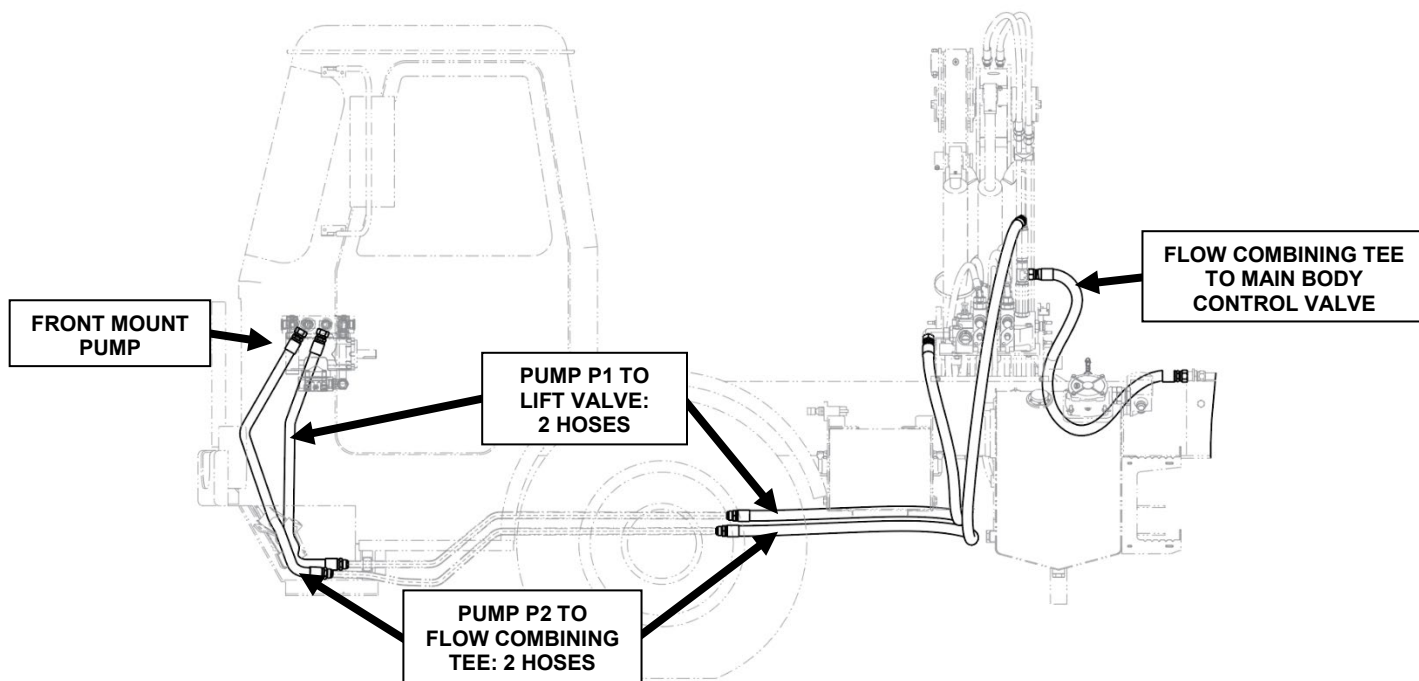
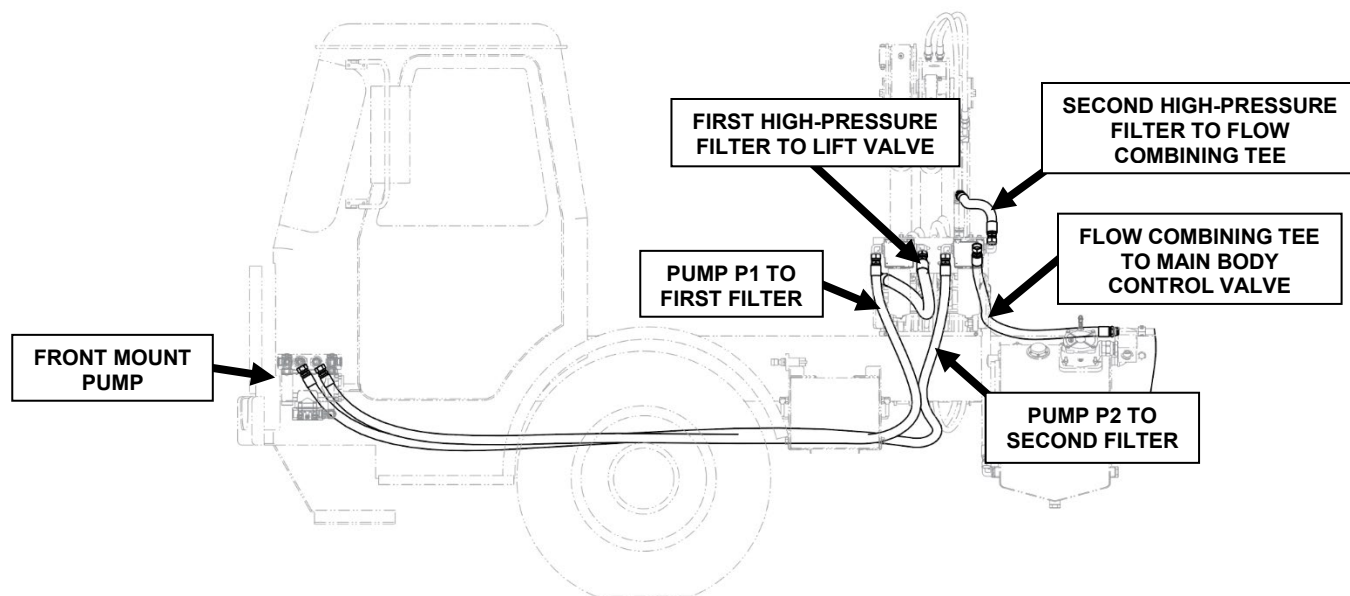
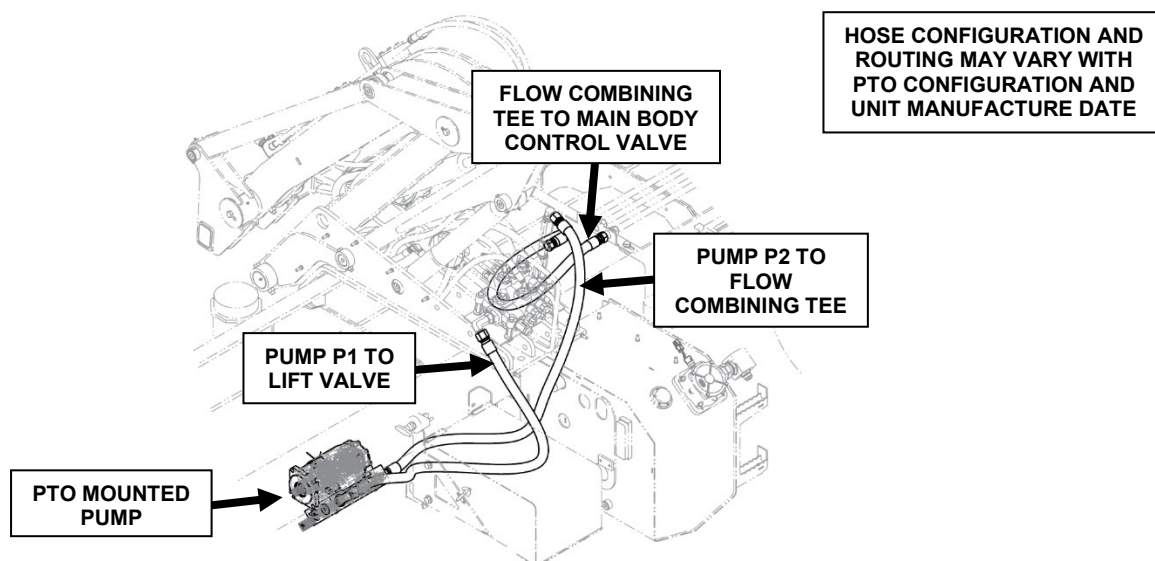
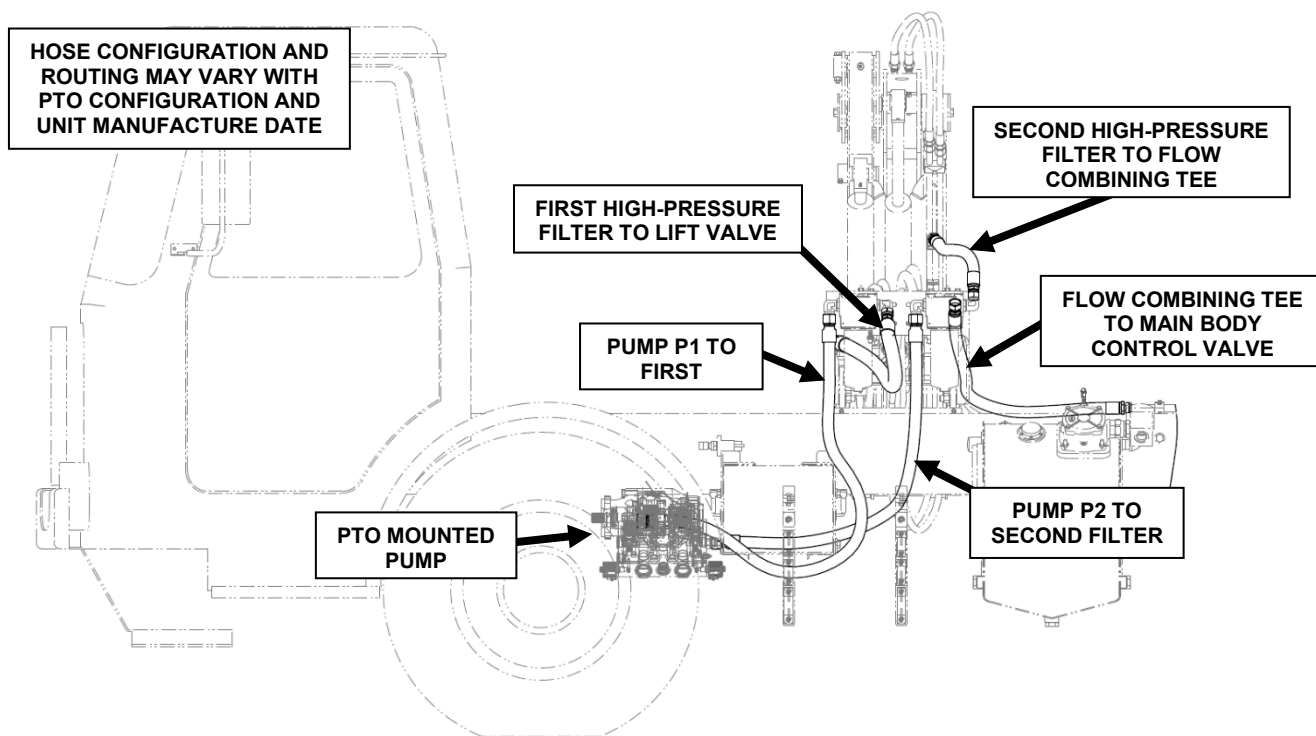

Figure 1. Units WITHOUT Dual High-Pressure Filter and WITH Front Mount Pump: Hose Configuration
Figure 2. Units WITH Dual High-Pressure Filter and WITH Front Mount Pump: Hose Configuration
Figure 3. Units WITHOUT Dual High-Pressure Filter and WITH PTO Mounted Pump: Hose Configuration
Figure 4. Units WITH Dual High-Pressure Filter and WITH PTO Mounted Pump: Hose Configuration
- (1) For units **WITHOUT** the Dual High-Pressure Filter option (**Figure 1** and **Figure 3**):
- (a) Pump P1 to lift valve: one (1) to two (2) hoses
- (b) Pump P2 to flow combining tee: one (1) to two (2) hoses
- (c) Flow combining tee to main body control valve: one (1) hose
- (2) For units **WITH** the Dual High-Pressure Filter option (**Figure 2** and **Figure 4**):
- (a) Pump P1 to first high-pressure filter: one (1) hose
- (b) First high-pressure filter to lift valve: one (1) hose (NOTE: changed in production to 4-wire hose in February 2019)
- (c) Pump P2 to second high-pressure filter: one (1) hose
- (d) Second high-pressure filter to flow combining tee: one (1) hose (NOTE: changed in production to 4-wire hose in August 2018)
- (e) Flow combining tee to main body control valve: one (1) hose